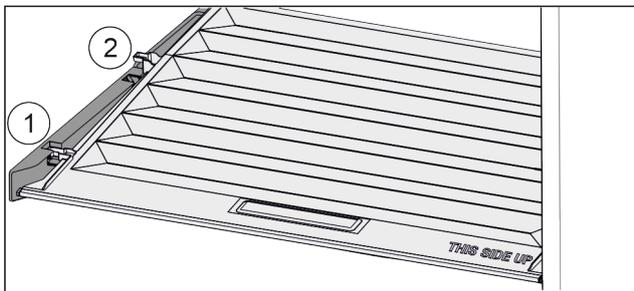

Fig. 96
- ▶ Pull the lid up at the front to the opening in the retaining parts Fig. 96 (1).
- ▶ Lift from the back and pull it up and out Fig. 96 (2).